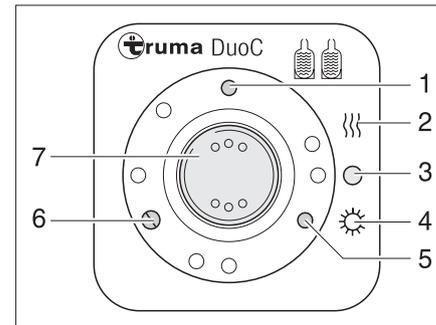
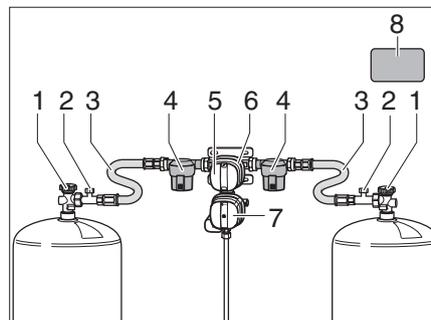
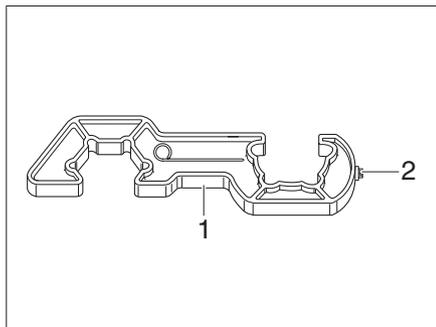
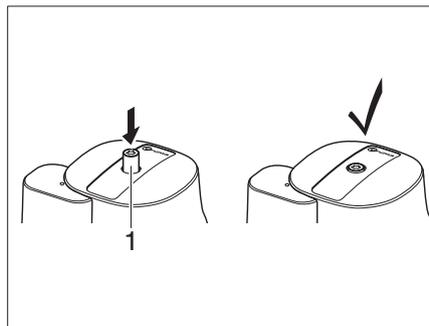

Fig. 63 Operating unit
Fig. 62 DuoControl switching facility
Fig. 65 Screw aid
Fig. 66 Crash sensor
The DuoControl switching facility consists of a switching valve (Fig. 62,6) and the operating unit (Fig. 63). The switching valve is mounted between the high-pressure tubes (Fig. 62,3). The knob (Fig. 62,5) on the switching valve is used to select which of the gas bottles is to be used as a primary bottle and which is to be used as a reserve bottle.
The switching valve (Fig. 62,6) is equipped with the regulator defroster "EisEx".
A gas filter (Fig. 62,4) that protects the gas system against oil and other contamination is located on each side before the switching valve. Only the electrical functions can be switched at the operating unit (Fig. 63). The regulator taps (Fig. 62,1) on the gas bottles must be opened manually.
The switching valve provides a constant gas pressure, regardless of which gas bottle is being drawn upon. The two indicator lamps on the operating unit show the filling level of the primary bottle. The primary bottle is full when the green indicator lamp (Fig. 63,6) lights up. The primary bottle is empty when the red indicator lamp (Fig. 63,5) lights up. The gas is then supplied via the reserve bottle.
- ▶ Open the regulator taps (Fig. 62,1) on the gas bottles.
- ▶ Use the knob (Fig. 62,5) on the switching valve (Fig. 62,6) to select the gas bottle which is to be the primary source of gas (primary bottle).
- ▶ Set the rocker switch (Fig. 63,7) to "O" (Fig. 63,3). The yellow indicator lamp (Fig. 63,1) goes out.
- ▶ Close the regulator taps (Fig. 62,1) on the gas bottles.
The indicator lamps on the operating unit (Fig. 63,5 and 6) indicate in the vehicle interior whether the primary bottle is ready for operation.
If the green indicator lamp (Fig. 63,6) goes out during operation and the red indicator lamp (Fig. 63,5) lights up, the gas bottle selected as the primary bottle is empty and has to be changed. The reserve bottle continues supplying the gas appliances with gas.
- ▶ Use the enclosed screwing aid (Fig. 65,1) to screw on and unscrew the high-pressure hoses. It ensures the necessary tightening torque and prevents damage to the screw connection caused by the wrong tool.
- ▶ Close the regulator tap (Fig. 62,1) on the empty gas bottle.
- ▶ Unscrew the high-pressure hose (Fig. 62,3) from the gas cylinder using the screwing aid (Fig. 65).
- ▶ Connect the full gas bottle to the high-pressure hose (Fig. 62,3).
- ▶ Open the regulator tap (Fig. 62,1) on the gas bottle.
- ▶ Set the knob (Fig. 62,5) on the switching valve (Fig. 62,6) with half a turn, so that the newly replaced gas bottle will serve as a reserve bottle.
- ▶ Press the button (Fig. 62,2) for the hose break guard at the high-pressure hose to activate it.
- ▶ If necessary, press the reset button (Fig. 66,1) at the crash sensor.
- ▶ Using the Torx T20 (Fig. 65,2) on the screw aid, press in the release button (Fig. 66,1), turn slightly clockwise and hold for 5 seconds.
The crash sensor is ready for operation when the unlock button (Fig. 66,1) remains in the recessed position.
- ▶ After changing the gas bottle, press the green button (Fig. 62,2) on the high-pressure hose (Fig. 62,3) firmly. The hose break guard is activated.